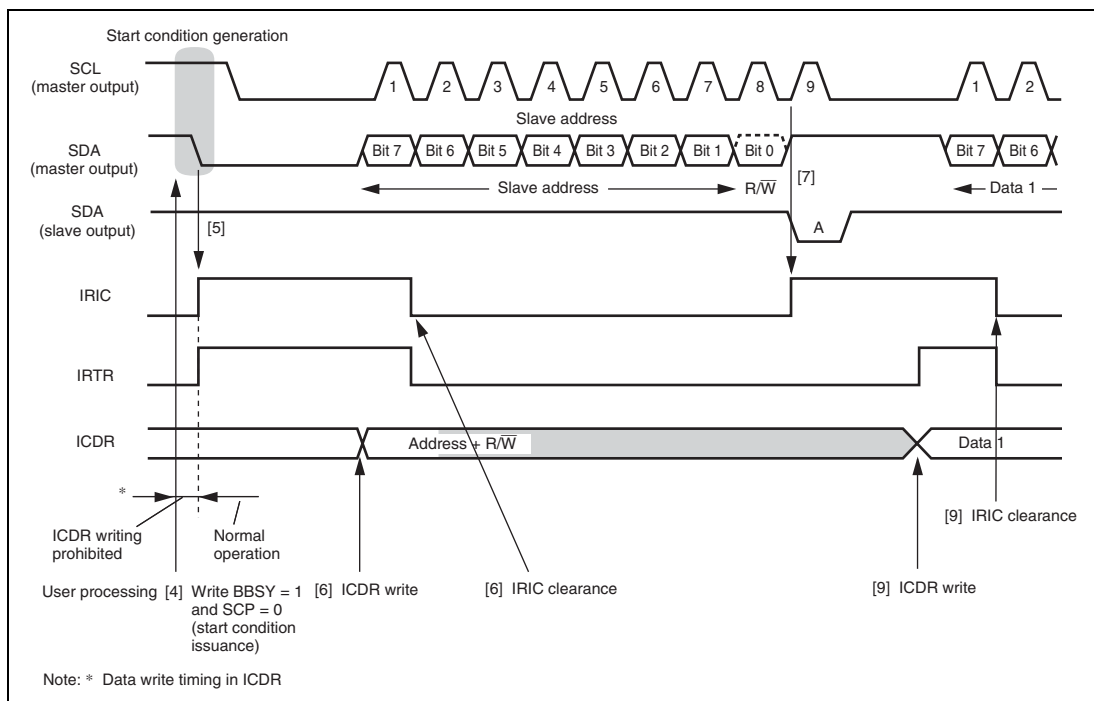

Figure 15.5 Master Transmit Mode Operation Timing Example
The I²C bus formats are addressing formats and an acknowledge bit is inserted. These are shown in figures 15.3. Figure 15.5 shows the I²C bus timing. The first frame following a start condition always consists of 8 bits.
6. Write the data (slave address + R/\overline{W}) to ICDR. With the I²C bus format (when the FS bit in SAR or the FSX bit in SARX is 0), the first frame data following the start condition indicates the 7-bit slave address and transmit/receive direction. As indicating the end of the transfer, and so the IRIC flag is cleared to 0. After writing ICDR, clear IRIC continuously not to execute other interrupt handling routine. If one frame of data has been transmitted before the IRIC clearing, it can not be determine the end of transmission. The master device sequentially sends the transmission clock and the data written to ICDR using the timing shown in figure 15.5. The selected slave device (i.e. the slave device with the matching slave address) drives SDA low at the 9th transmit clock pulse and returns an acknowledge signal.